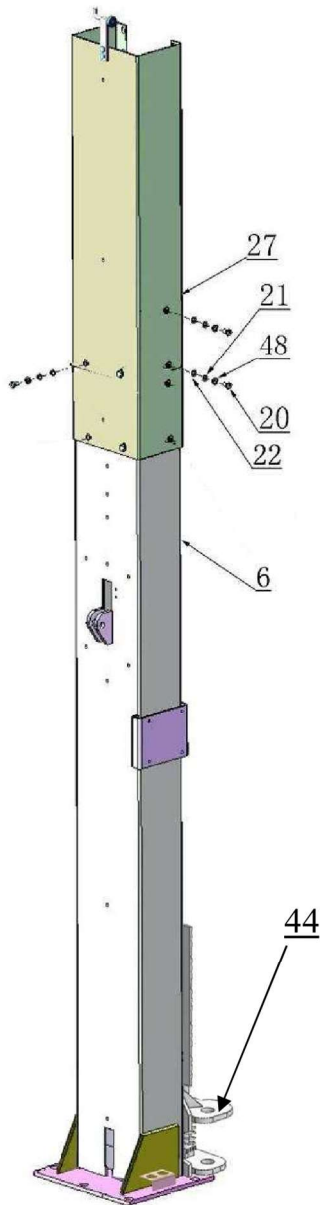

Fig. 13 Low Setting
1. When the ceiling height is less than 3850mm (151 1/2") for 209SAC, 4460mm (175 5/8") for 209SACH, connecting the extension columns with the upper hole (**See Fig.13**).